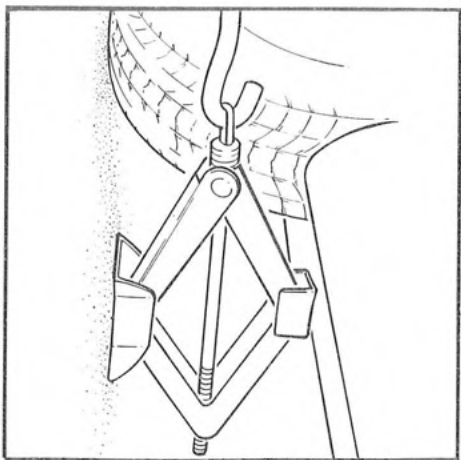
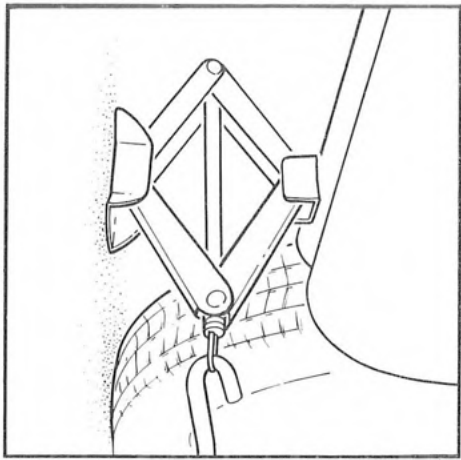

Fig. 37 Jacking Point - Front.
Fig. 38 Jacking Point - Back.
- Position Vehicle "scissor" jack (found in boot) on Front: Main chassis tube as Fig. 37. Back: Main Chassis Tube as Fig. 38.